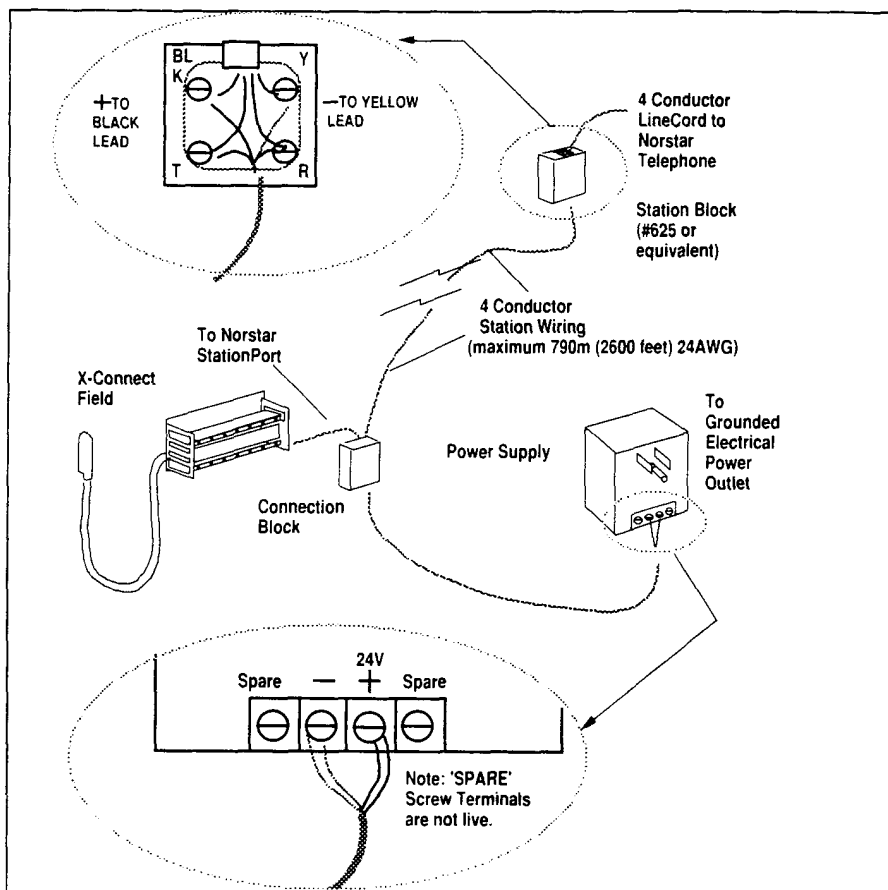

Figure 9.4 - Norstar Station Auxiliary Power Supply Installation
1. Ensure that each long loop (>305 m (1000 ft.), 24AWG wire) Norstar telephone has four-wire conductor station wiring between the station block and the common equipment room. (See Figure 9.4).
2. At the station connection block (#625 type, or equivalent), connect the four wires of the station wiring cable to the four screw terminals as shown in Figure 9.4.
- power connections easier, see Figure 9.4).